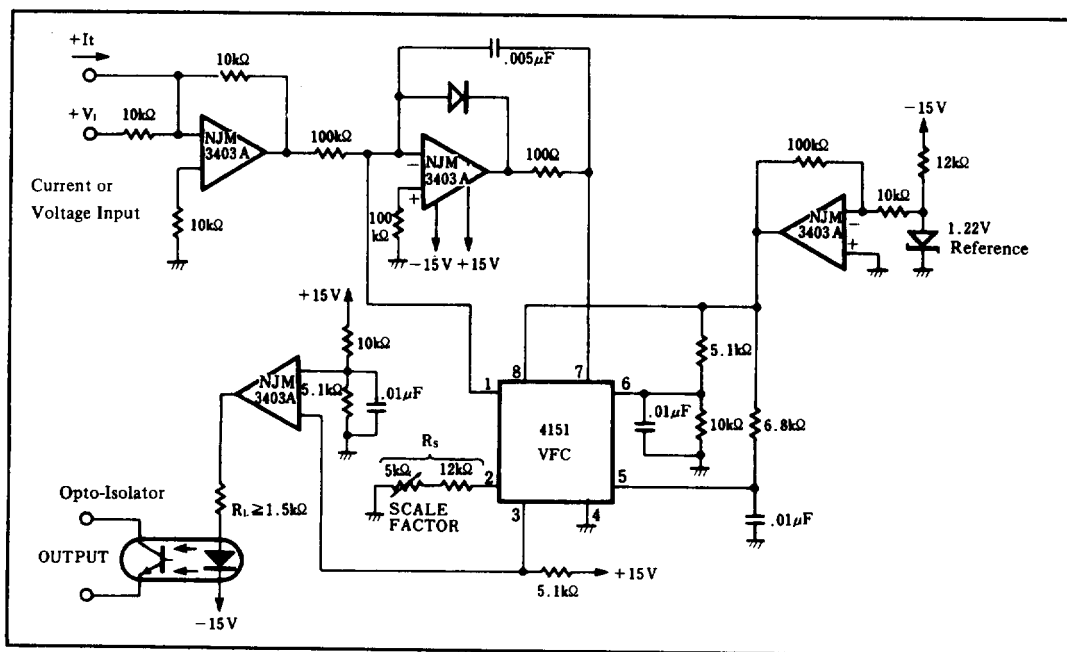

Figure 7. Opto-Isolated VFC
- IV. Design an opto-isolated V_{FC} with high linearity which accepts a full scale input voltage of +10V. See Figure 7 for the final design. This circuit uses the precision mode VFC configuration for maximum linearity. The NJM3403A quad op-amp provides the functions of inverter, integrator, regulator, and LED driver.